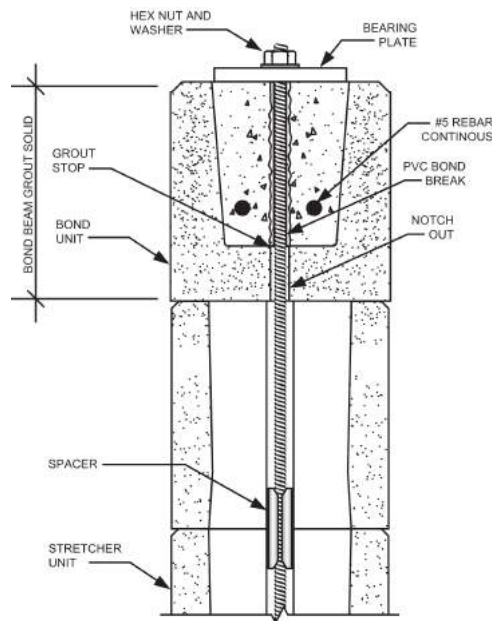
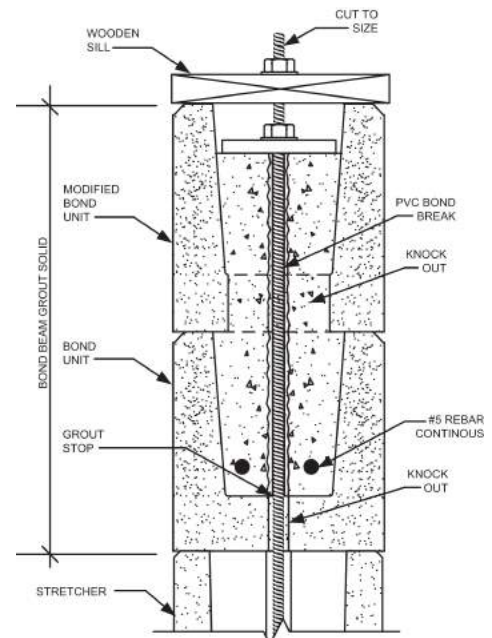

Fig. 4.34
Fig. 4.35
7. Carefully pour the grout into the bond beam. Completely fill it to approximately 1/4" to 1/2" from the top of the shell. Wipe the top of the shells clean of any excess grout (*Fig 4.34*).
Should it be necessary to hide the bearing plate inside the bond unit, a double bond beam must be used (*Fig 4.35*). This will allow for sufficient mass and strength to tension from the inside. In order for both of these bond courses to function as a single structural member, the top bond course will have to be modified to allow grout to flow from the top bond course into the lower bond course .
As described earlier in this Guide, the partition bond beam is grouted and reinforced. Along with the Standard Capping Method (*Fig. 4.34*), the bearing plate can be hidden as detailed in the Alternate Capping Method (*Fig. 4.35*). For more information see Step 9 of this Guide.